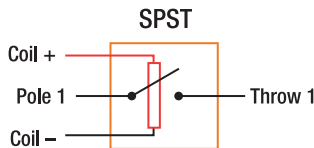

Figure 2-2. This SPST relay has one pole, with one contact (a simple switch).
- **Single Pole, Single Throw (SPST):** This type of relay uses one coil to control one switch with two contacts—there are four total contacts on this relay (see Figure 2-2).